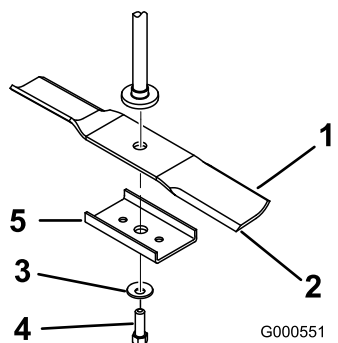

Figure 45
Hold the blade end using a rag or thickly-padded glove. Remove the blade bolt, curved washer, blade stiffener (42 inch models only), and blade from the spindle shaft (Figure 45).
- Install the blade onto the spindle shaft (Figure 45).
- Install the blade stiffener (42 inch models only), the curved washer (cupped side toward the blade) and the blade bolt (Figure 45).